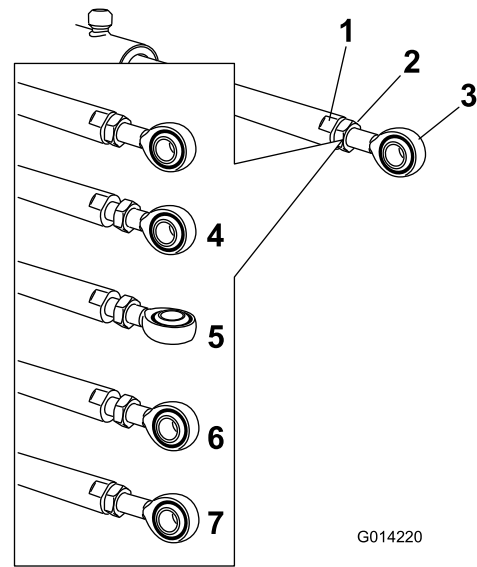

Figure 149
5. Hold the actuator rod at the flats of the rod using a wrench, then loosen the jam nut (Figure 149).
6. Turn the rod end in the actuator rod to shorten or lengthen the extended actuator to the desired position (Figure 149).